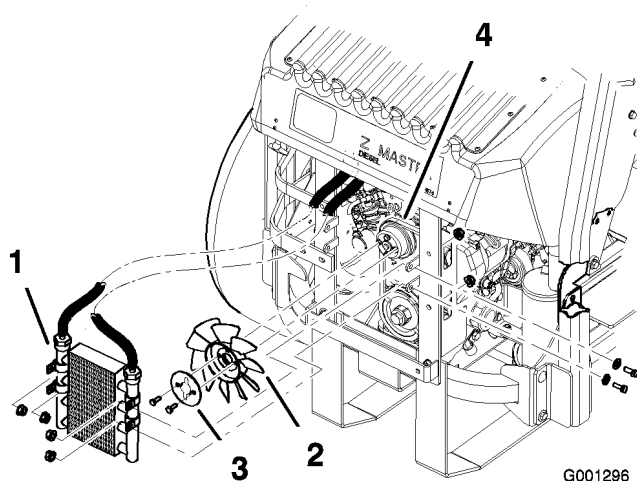

Figure 61
5. Remove the 4 bolts holding the oil cooler and position the oil cooler to the side (Figure 61).
6. Remove the 2 bolts holding the fan and fan plate to the machine (Figure 61).
10. Install the fan and fan plate to the machine with the 2 bolts previously removed (Figure 61).
11. Install the oil cooler with the 4 bolts previously removed (Figure 61).